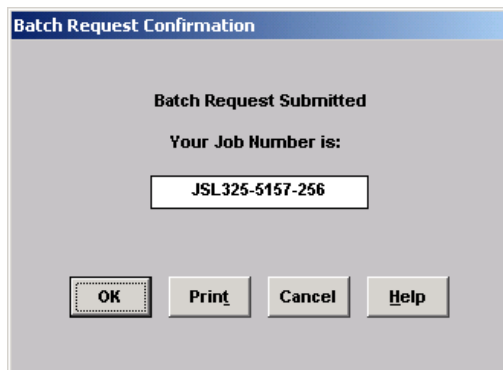

Figure 6.34
- 6.8.1.5 If multiple listings are selected or a single listing is selected and there are more than 50 records for that listing, the *Batch Request Confirmation* window (Figure 6.34) appears with your assigned Job Number. Click *OK*.